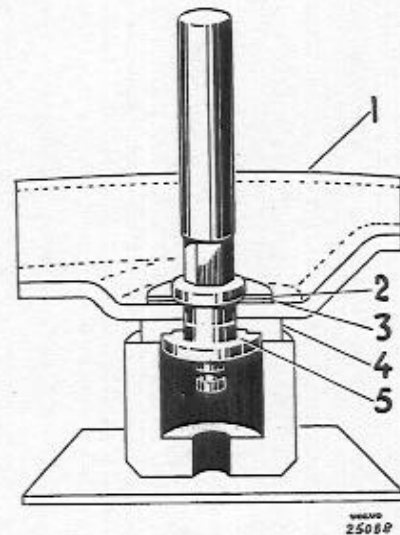

Fig. 25. Removing the stud.
The stud (5, Fig. 25) for the adjusting cam (4) which is fitted in the brake backing plate can be replaced by pressing out the old stud and staving in a new stud with the special staving tool SVO 2119.
1. Remove the brake backing plate. Place the cushioning sleeve belonging to the staving tool in a press as shown in Fig. 25 and press out the stud (5) with the help of a drift.